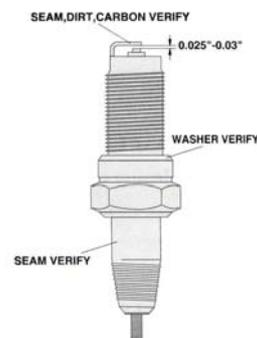

Figure 12
- Before installing spark plug coat threads lightly with graphite grease if possible, to ensure easy removal next time the spark plug needs inspection (see Fig. 12).